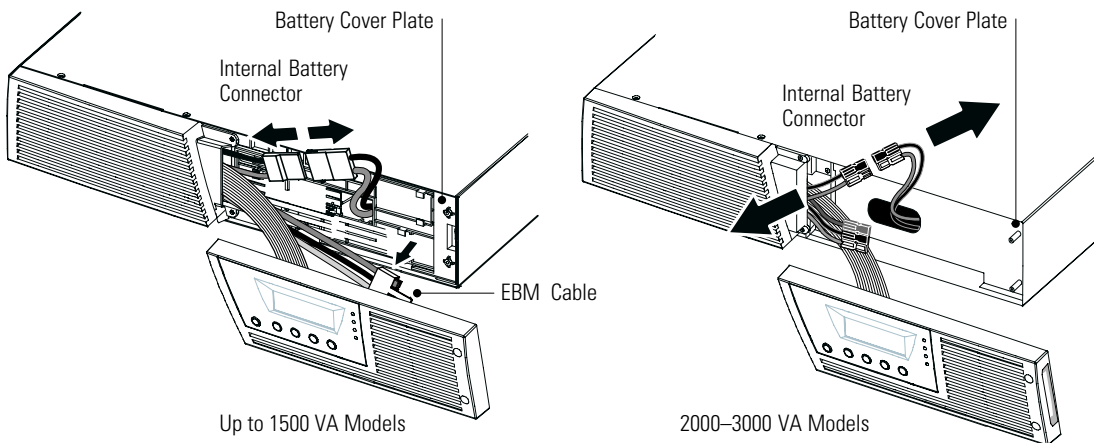
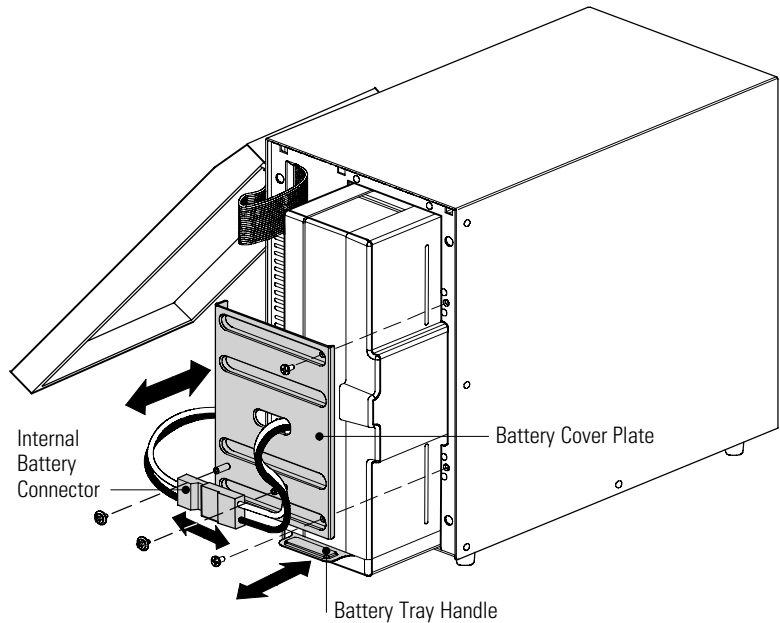

Figure 24. Disconnecting the UPS Internal Batteries (Shown without EBMs)
Figure 26. Replacing the UPS Internal Batteries
NOTE *If the UPS requires any type of transportation, verify that the UPS is unplugged and turned off and then disconnect the UPS internal battery connector (see Figure 24 on page 64 for rackmount models or Figure 26 on page 67 for tower models).*
2. Disconnect the internal battery connector (see Figure 24).
3. **Up to 1500 VA models only.** If the EBM cable is not connected to an EBM, unclip the EBM cable and move it to the left out of the way. See Figure 24.
4. Grasp an edge of the battery cover plate and pull it forward gently. Remove and retain the battery cover plate. See Figure 24 for the location of the battery cover plate.
9. **Up to 1500 VA models only.** If the EBM cable is not connected to an EBM, clip the EBM cable back into its holder on the battery cover plate. See Figure 24.
2. Remove and retain the two screws holding the internal battery connector. Disconnect the internal battery connector. See Figure 26.